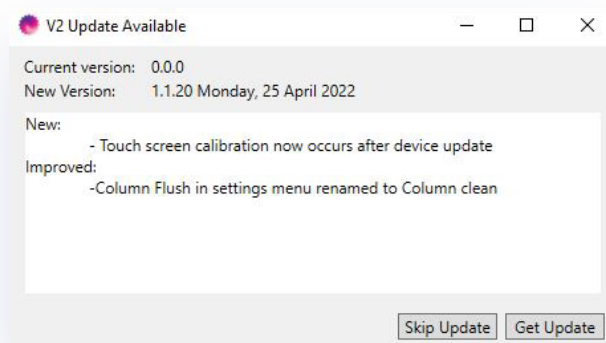

Figure 21: Click **Get Update** to download the latest version of the AFC Operating Firmware.
3. Once installed, the AFC Updater will automatically check to see if the latest version of the AFC Operating Firmware has been downloaded. If an update is available, the Updater will display the release notes for the latest version as shown in Figure 21.